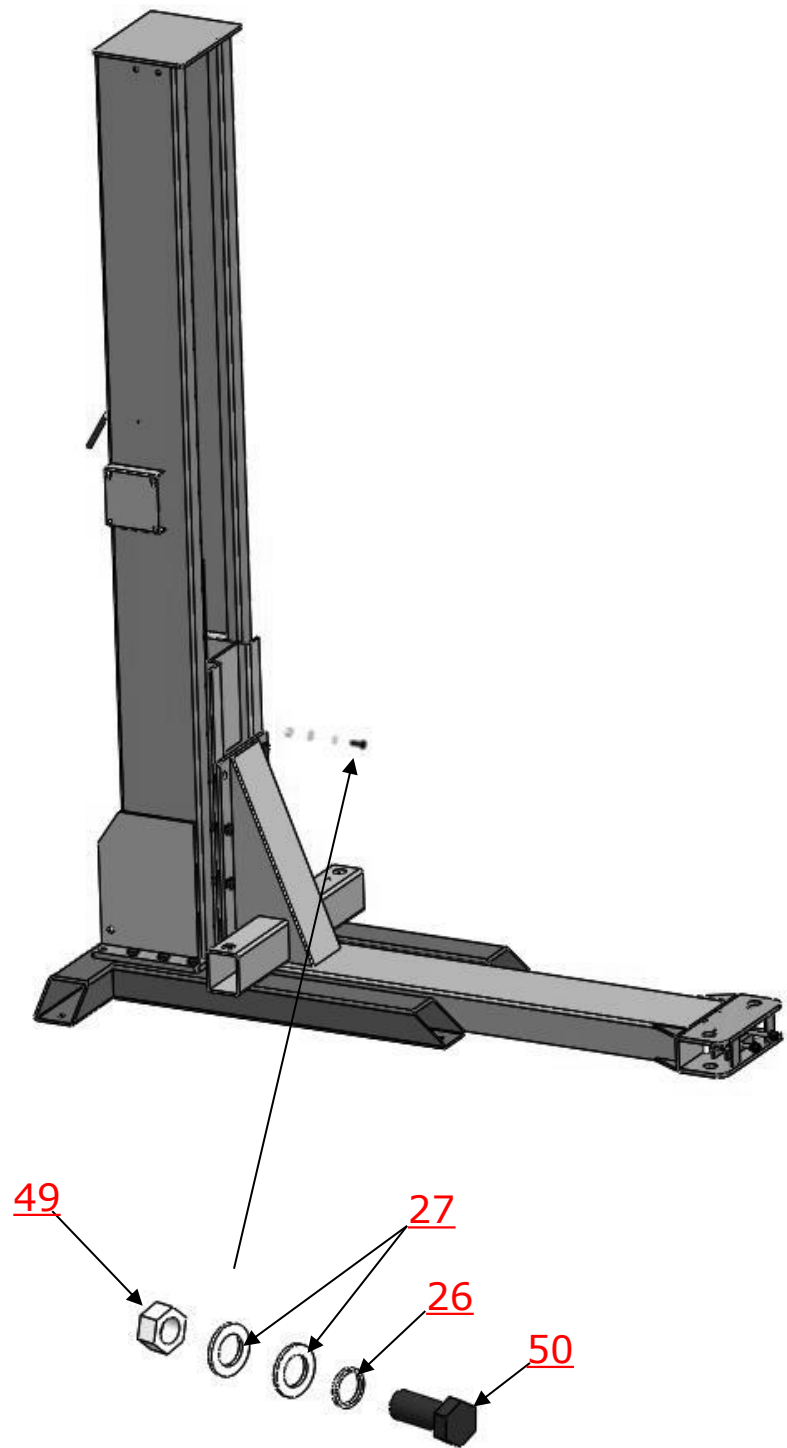

Fig. 13
4. Fix lifting platform to carriage. (See Fig.13)